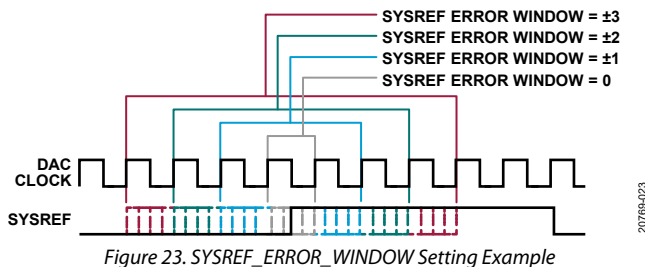

Figure 23. SYSREF_ERROR_WINDOW Setting Example
Register 0x00B7 is set in units of DAC clocks. Figure 23 shows the relation between the SYSREF_ERROR_WINDOW setting, the DAC clock, and the SYSREF (averaged or sampled). As long as the SYSREF is aligned to the internal LMFC/LEMC reference to within the limits set in the SYSREF_ERR_WINDOW register, the SYSREF_WITHIN_LMFC_ERRWINDOW bit is set to 1. If the value is outside this limit, the value is 0.
6. Use the SYSREF_ERR_WINDOW register (see Table 17) to set up SYSREF tolerant window. The user can set a certain error window, and the synchronization IRQ is asserted only when the external SYSREF signal is out of the window on the internal LMFC/LEMC (see Figure 23). Note that the error window is only available for SYSREF monitor mode.